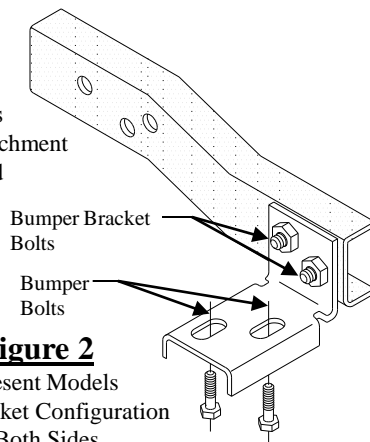

Figure 2
1994-Present Models: Bumper is attached to bumper brackets by two (2) vertical bolts, see Figure 2.